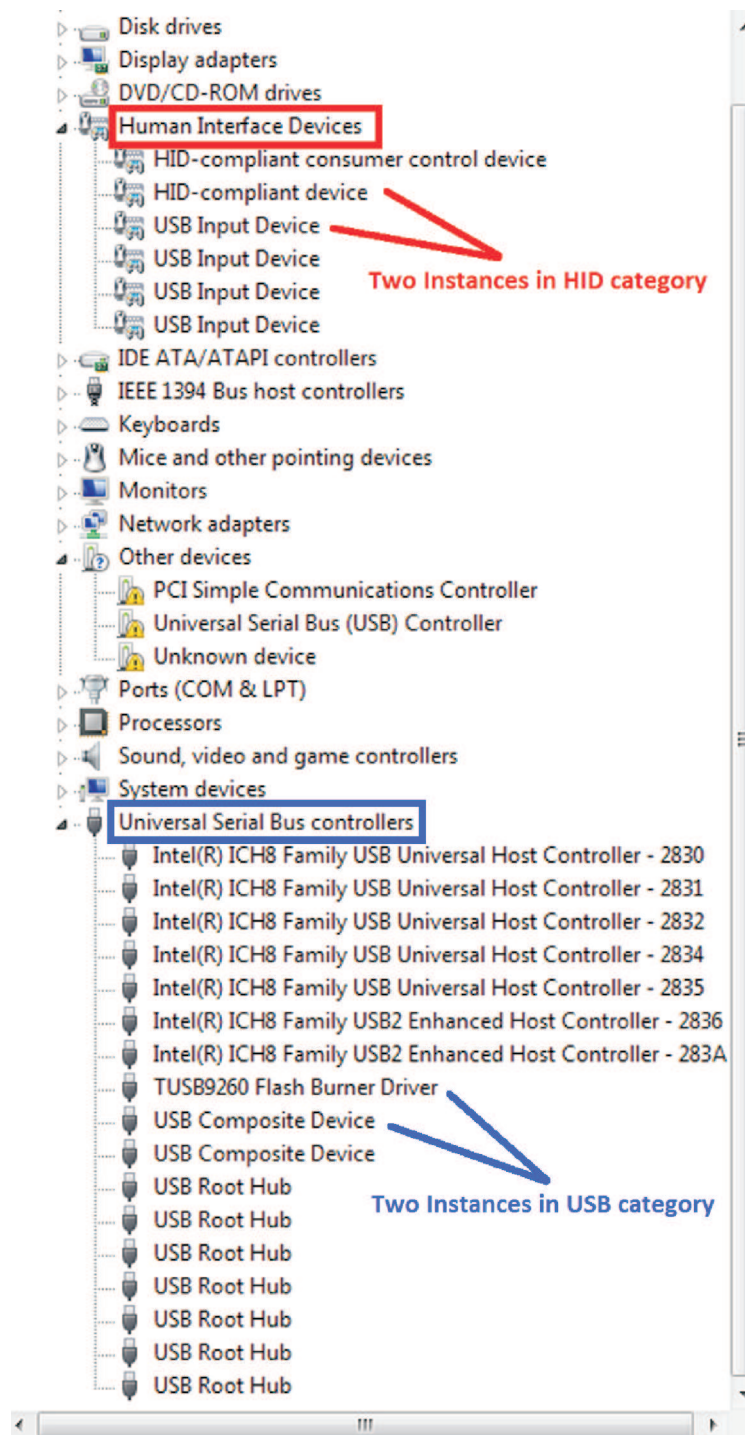

Figure 2-5. TUSB9260/TUSB9261 Instances With Blank or Not Connected SPI Flash
1. Blank or not connected SPI Flash (see Figure 2-5).